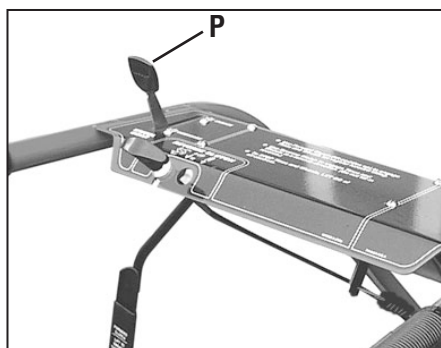

Figure 2-12: Attach Wheel Gear Lever.
1. Insert the Wheel Gear Lever (P, Figure 2-12) up through the slot in the control panel that is labeled "WHEEL GEAR."